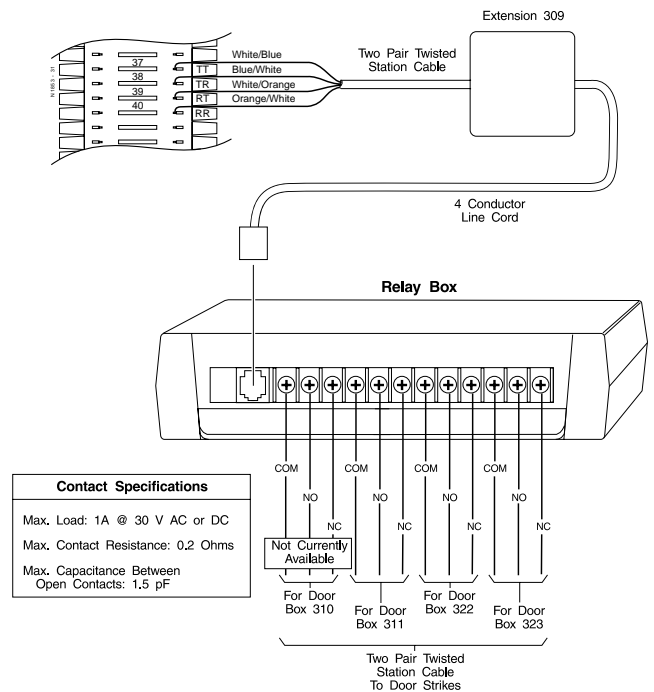

FIGURE 21
2. Terminate the other end of the cable to a modular jack. See Figure 21.